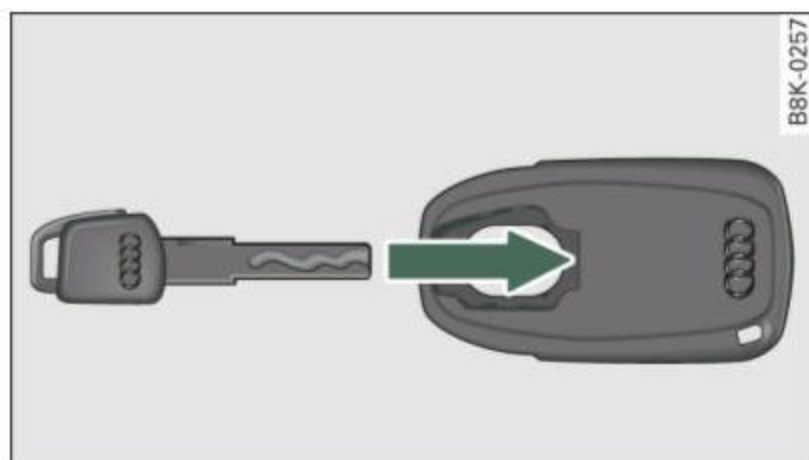

Fig. 34 Insert emergency key into the adapter
- Push the emergency key ⇒ fig. 34 fully into the adapter. Make sure that the Audi rings are facing up.